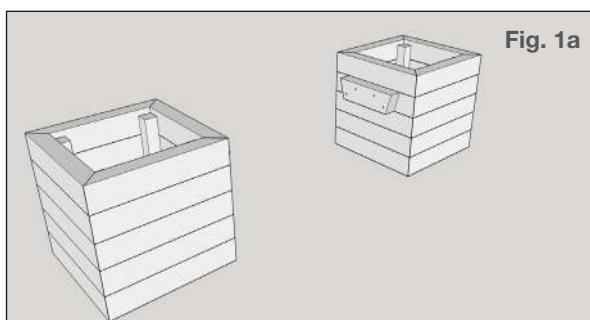

Fig. 1a
1. Place the two planters 1m apart with the pre-drilled holes on the sides of the planters facing each other. (Fig. 1a)